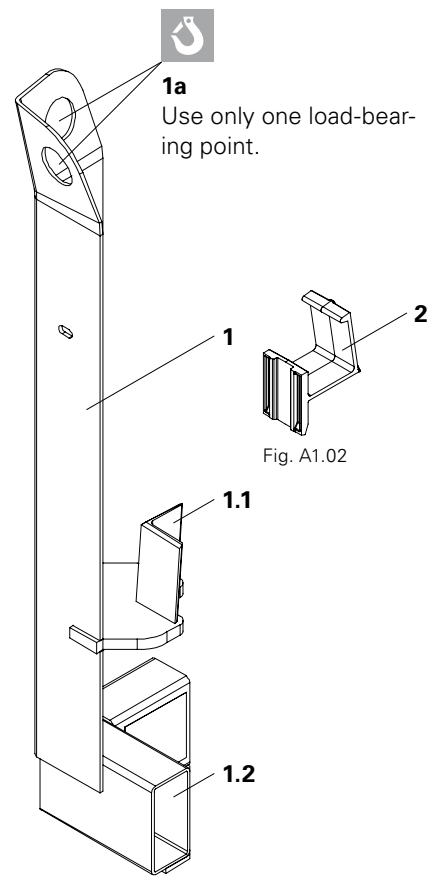

Fig. A1.01
1. Attach load hooks (11a) to the load-bearing points (1a) of the Stacking Device – 4x. (Fig. A1.01 + A1.04)